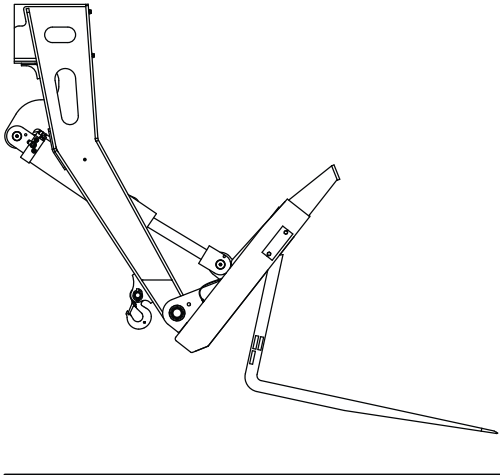

Figure 40 Fork Pivoting on the Bar
3. Tilt the attachment forward until the fork pivots on the bar, and no longer resting on the carriage's bottom rail (see Figure 40). This prevents binding on the bar, thus aiding its repositioning.